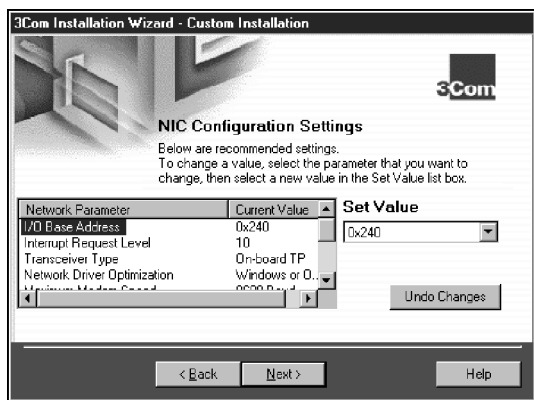

Figure 3-2 NIC Configuration Settings Screen
When you configure the NIC using the 3Com Installation Wizard, you must make sure that this setting matches the value displayed on the NIC Configuration Settings screen. See Figure 3-2.
The NIC Configuration Settings screen appears, as shown in Figure 3-2. The list box displays recommended configuration settings for the NIC. You can either accept the recommended settings or change one or more to suit your operating environment.
- 2 In the Set Value selection box, click the scroll arrow to select the I/O range setting that you wrote down in "Configuring the NIC" in Chapter 2. See Figure 3-2.